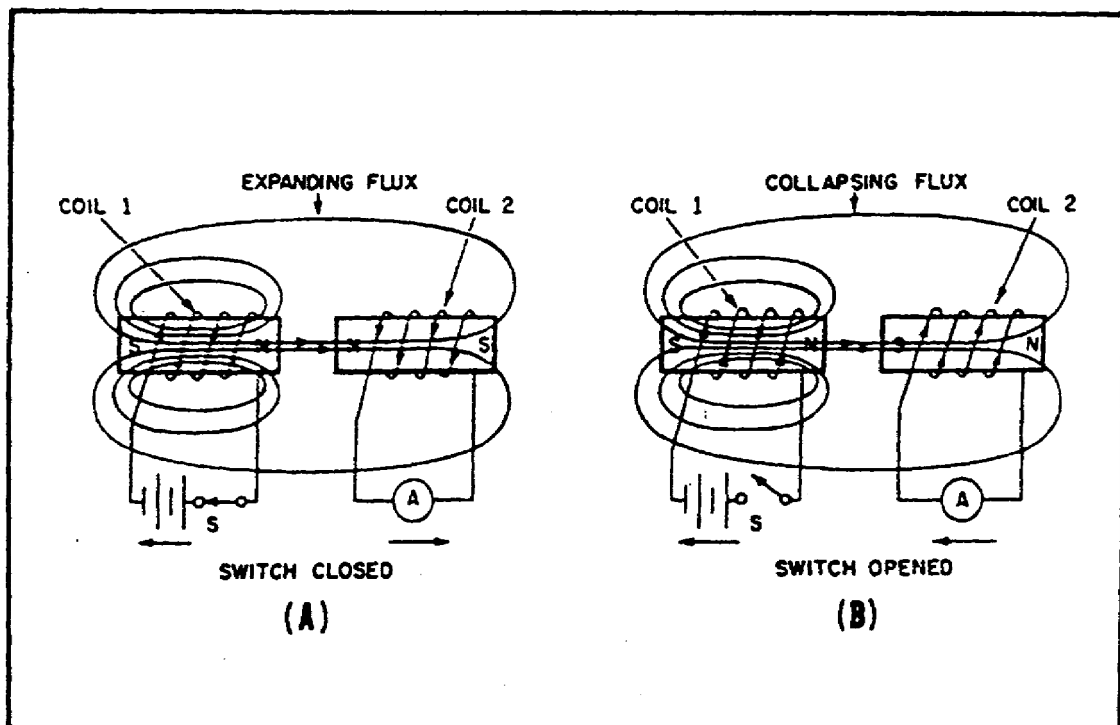

FIGURE 23. MUTUAL INDUCTANCE.
Two coils are placed close together as shown in figure 23 on the following page. Coil 1 is connected to a battery through switch S, and coil 2 is connected to an ammeter (A). When switch S is closed, as in figure 23, view A, the current that flows in coil 1 sets up a magnetic field that links with coil 2, causing induced voltage in coil 2 and a momentary deflection of the ammeter. When the current in coil 1 reaches a steady value, the ammeter returns to zero. If switch S is now opened as in figure 23, view B, the ammeter (A) deflects momentarily in the opposite direction, indicating a momentary flow of current in the opposite direction.